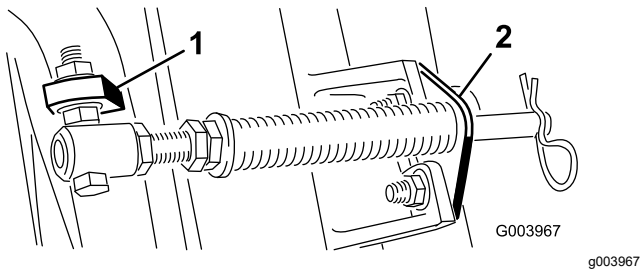

Figure 5
Note: Position the bolt head to the outer side of the tab as shown in Figure 5.
D. Mount the rod bracket to the cutting-unit tabs with the carriage bolts and nuts (Figure 5).